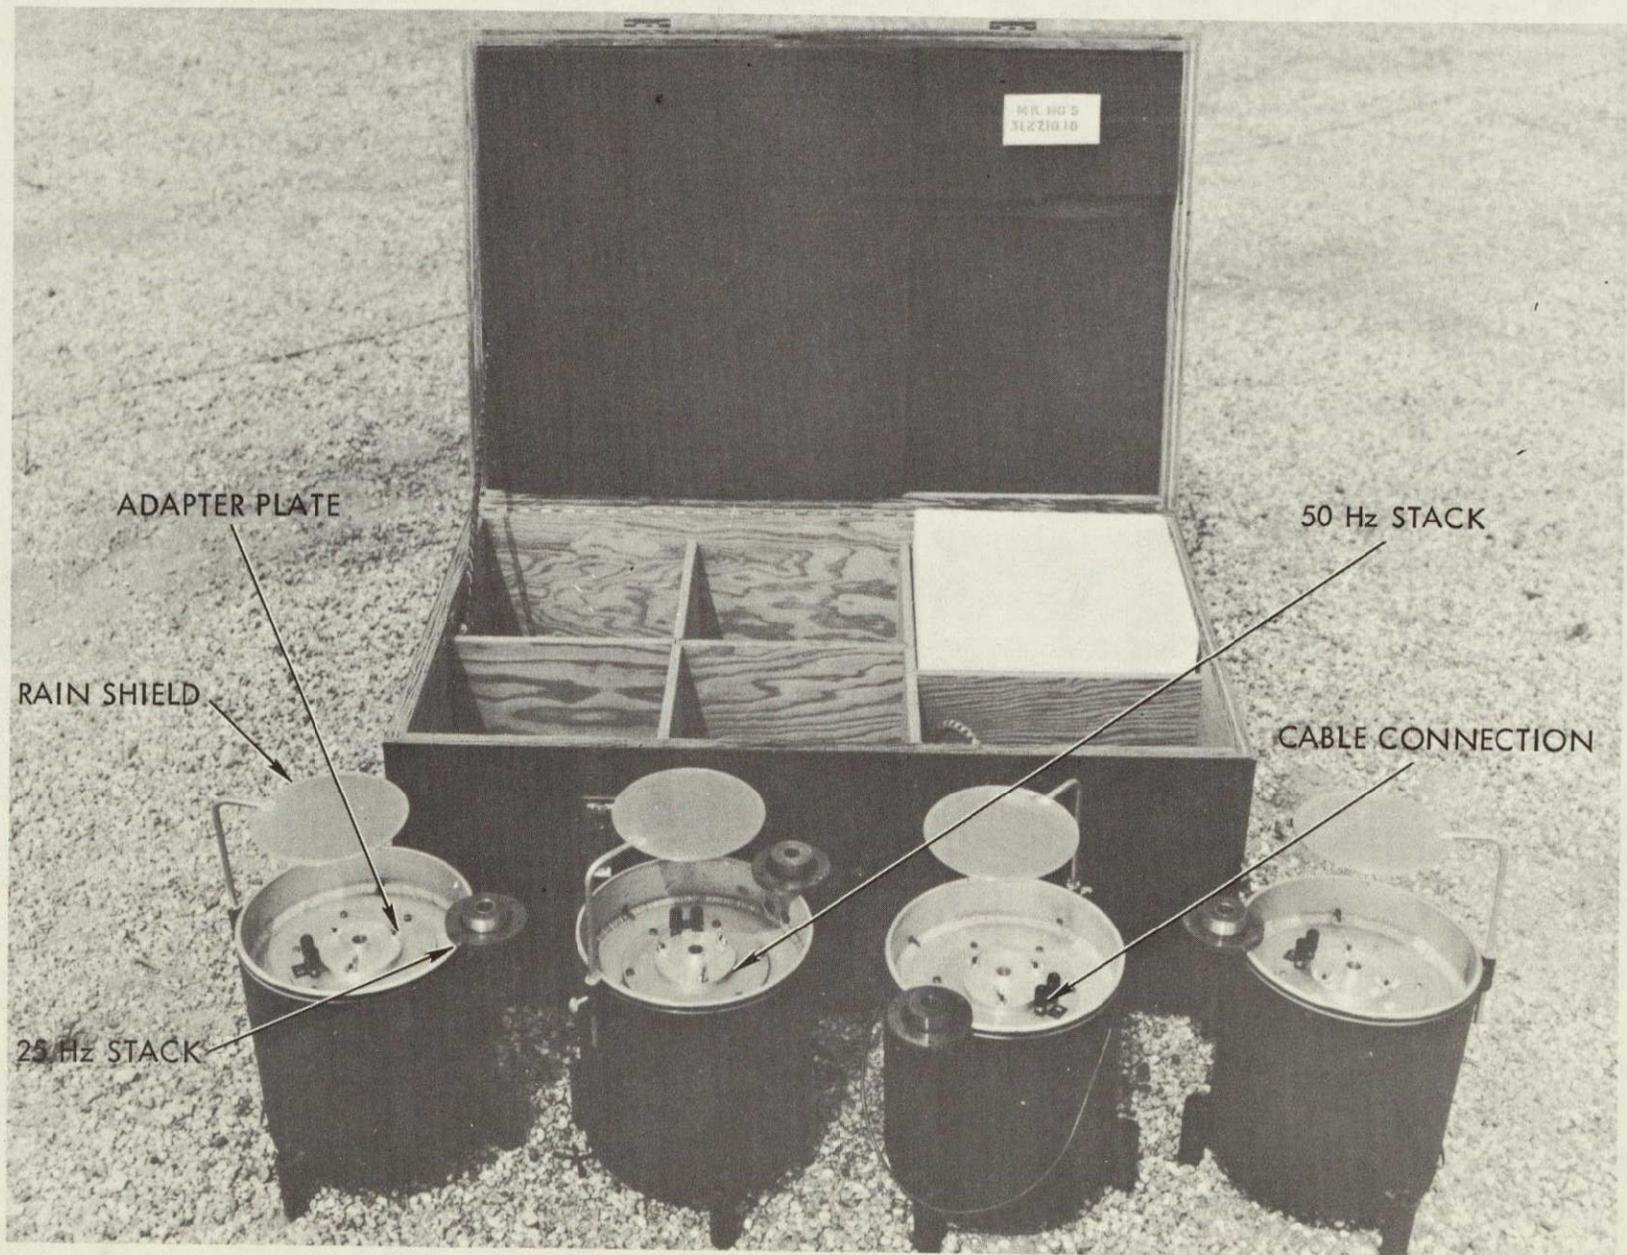

Fig. 10. Microphone installation
- 2) Insert the microphone and plate into the resonant cavity and fasten by installing the six screws (Fig. 10).
- 3) Place either the preselected 25- or 50-Hz stack in the resonant cavity and install the three wing nuts (Fig. 10).